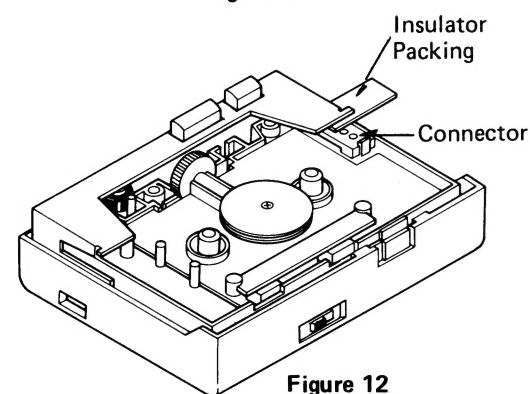

Figure 12
3. Set the cassette player and the tuner in the play mode. In this case, insert a insulator packing between the cassette holder and the tuner pack in order for the connector not to detach from the cassette player. (Figure 12)